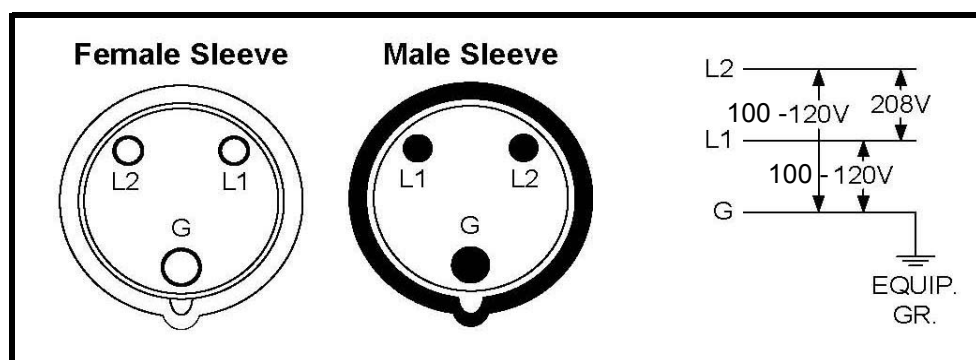

Figure 7-1 North American/Japan Power Standard Receptacle
- Power Cable (p/n 40K9615) - North American/Japan Power Standard. IEC 309 2P+G (2.5m) - 60A (48A Derated) 200V-240V Single Phase. See Figure 7-1